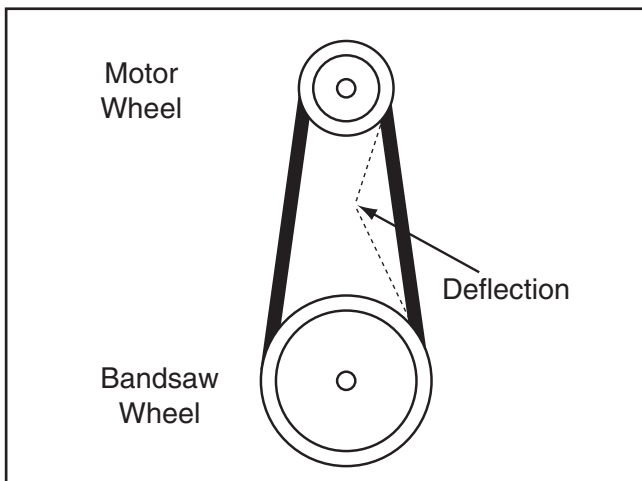

Figure 58. V-belt deflection.
4. Push center of V-belts. Note amount of deflection (see **Figure 58**). If deflection is more than $\frac{3}{4}$ ", tension V-belts.